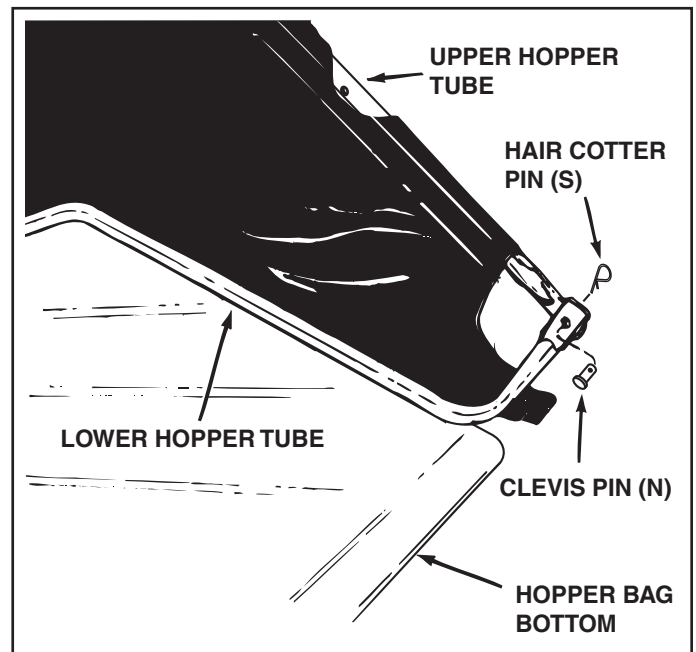

FIGURE 13
STEP 16: (SEE FIGURE 13)
- Attach the ends of the lower hopper tubes to the **inside** of the upper hopper tubes using two clevis pins (N) inserted from the inside, and two hair cotter pins (S).